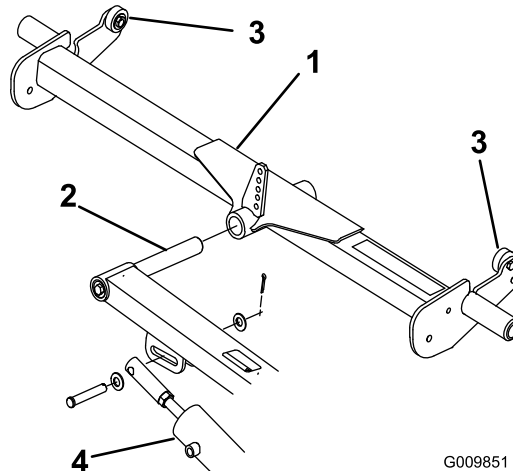

Figure 3
1. Slide the rear carrier frame onto the rear lift arm pivot rod (Figure 3). Do not install the carrier frame to the cutting unit at this time.
3. Press down on one end of the carrier frame until the up stop on the opposite end contacts the underside of the foot step (Figure 3).
- A. Remove the clevis pin securing the rod end of the lift cylinder to the lift arm (Figure 3).
- D. Tighten the hex nut and connect the cylinder rod end to the lift arm (Figure 3).